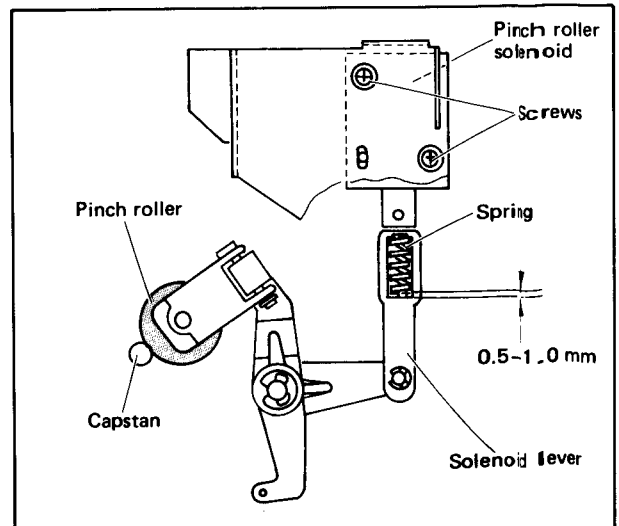

Fig. 4-29
2. Check that the space between the solenoid lever and spring is 0.5–1 mm as shown in Fig. 4-29.